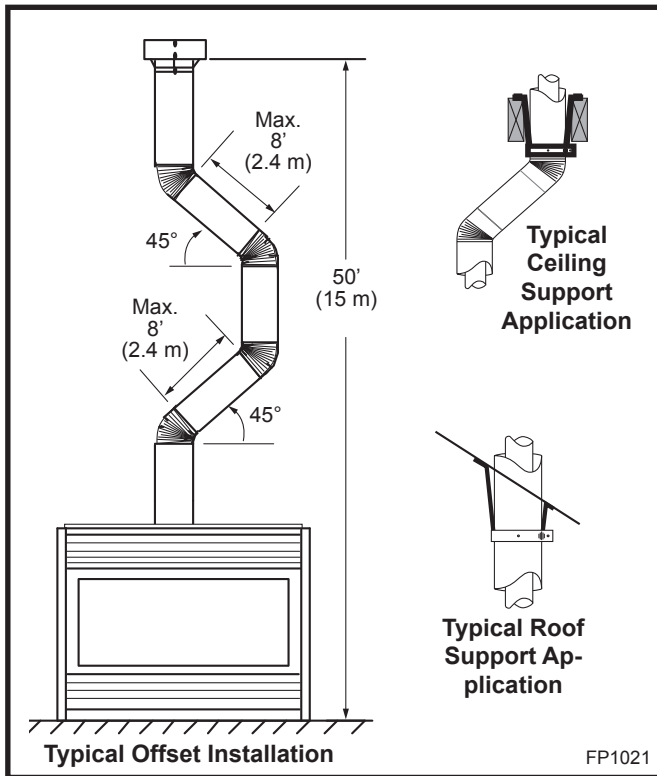

Fig. 33 Typical vertical roof applications.
4. Two sets of 45° elbows offsets within these vertical installations. From 0 to a maximum of 8' (2.4 m) of vent pipe can be used between elbows. (Fig. 33)
5. 7DVCS must be used to support offsets. (Fig. 33)